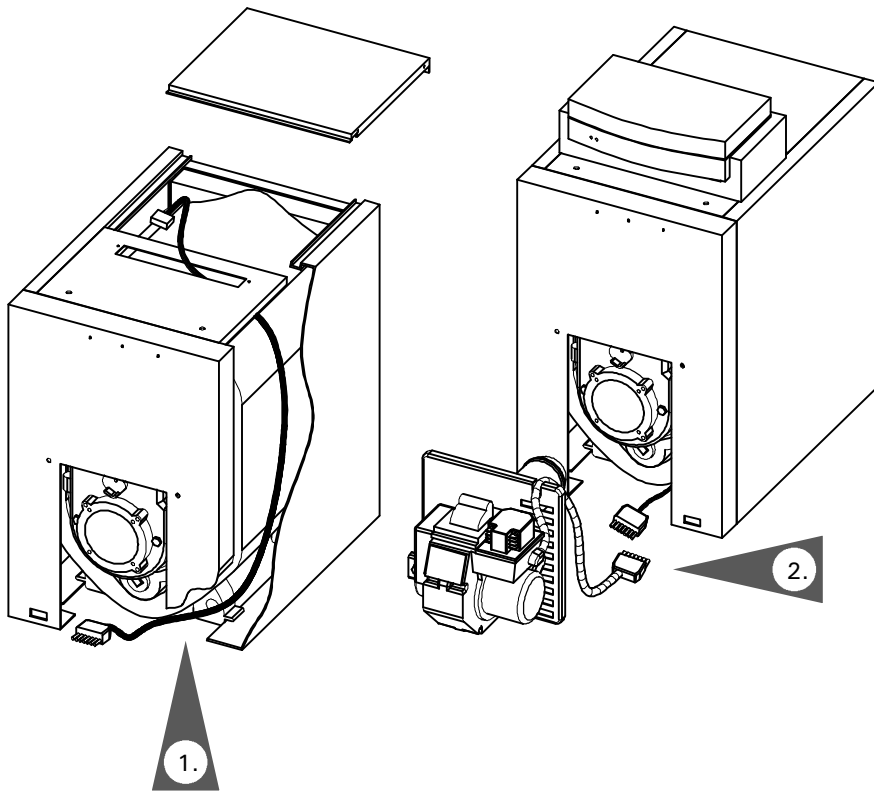

Fig. 32
1. Run the **41** plug-in connector cable of the Vitotronic control down behind the front panel of the boiler and out through the bottom. (Fig. 32)
2. Connect the female **41** plug of the burner to the male **41** plug of the Vitotronic control. (Fig. 32)